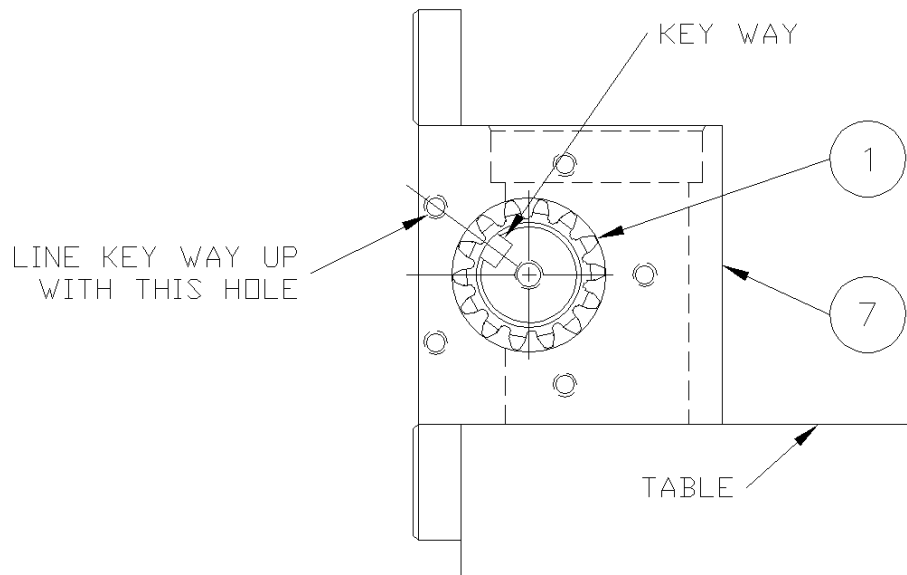

figure A-5
5. Place the actuator body (7) (fig. A-5) on the edge of the table, mounting flanges closest to the assembler with the counter-bores facing up. Insert the pinion shaft (1) through the bore on either side of the actuator body with the key ways facing the center of the tapped hole as shown in figure A-5. Center the pinion in the actuator body.